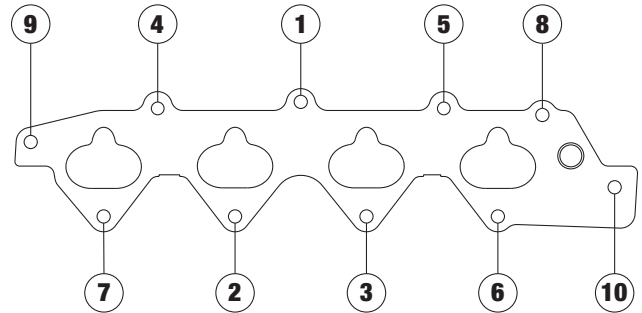

Fig. 4 - Intake Manifold Tightening Sequence (Torque nuts to 17 ft./lbs. in two or three steps, following sequence above.)
10. Using a factory Honda intake manifold gasket, or equivalent aftermarket gasket, install the Performer X manifold/throttle body/fuel rail assembly onto the engine using the factory nuts (**See Fig. 4 for proper torque values and sequence**).